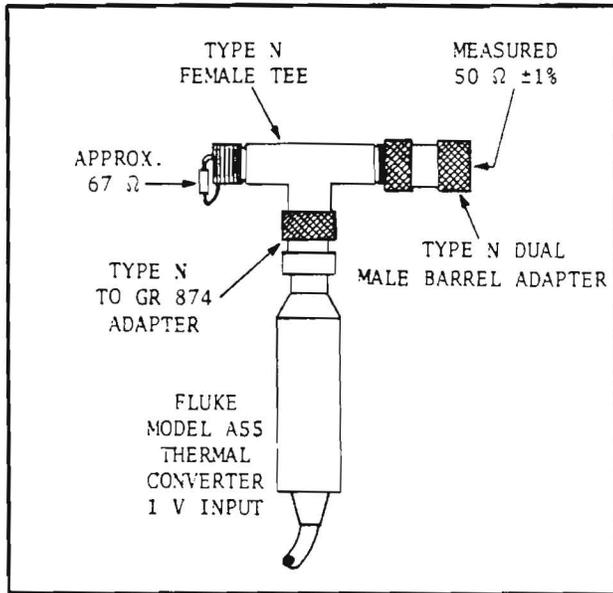

Figure 5-1. Modified Thermal Converter for Checking the Calibrator Output
- c. For checking the Calibrator output, a Thermal Voltage Converter will be needed to be used as a transfer standard. The maximum voltage range is 1V. A unit such as the Fluke Model A55 Thermal Transfer Standard or equivalent is recommended. It is required that this device be matched to 50 ohms. The impedance of the converter is approximately 200 ohms, so it is necessary to measure its resistance very accurately (within 0.1%) and select a value of resistance to place in parallel with it to make its value become 50 ohms $\pm 1\%$. Make all connections very short, preferably soldering the resistor across the end of a Type N Tee connector as shown in Figure 5-1. Be careful not to apply a voltage in excess of 1V to the Converter when measuring its resistance or the Converter could be destroyed.
mately 200 ohms input resistance. When used, it is required to measure its input resistance and connect enough resistance across its input to change it to 50 ohms $\pm 1\%$. See Figure 5-1 on page 5-2 for an illustration of this arrangement. In addition, an adapter is needed to connect the assembly to the output of the calibrator.